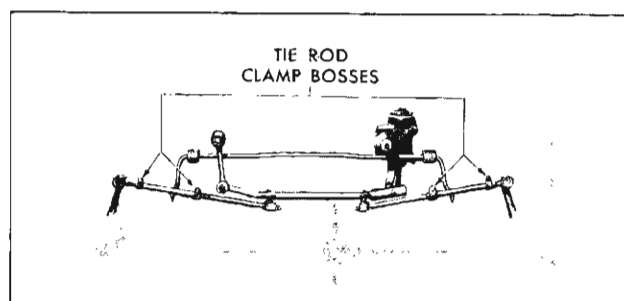

Fig. 3—Toe-In Adjustment
2. Loosen clamp bolt at each end of each tie rod and adjust to the total specified toe-in (fig. 3).